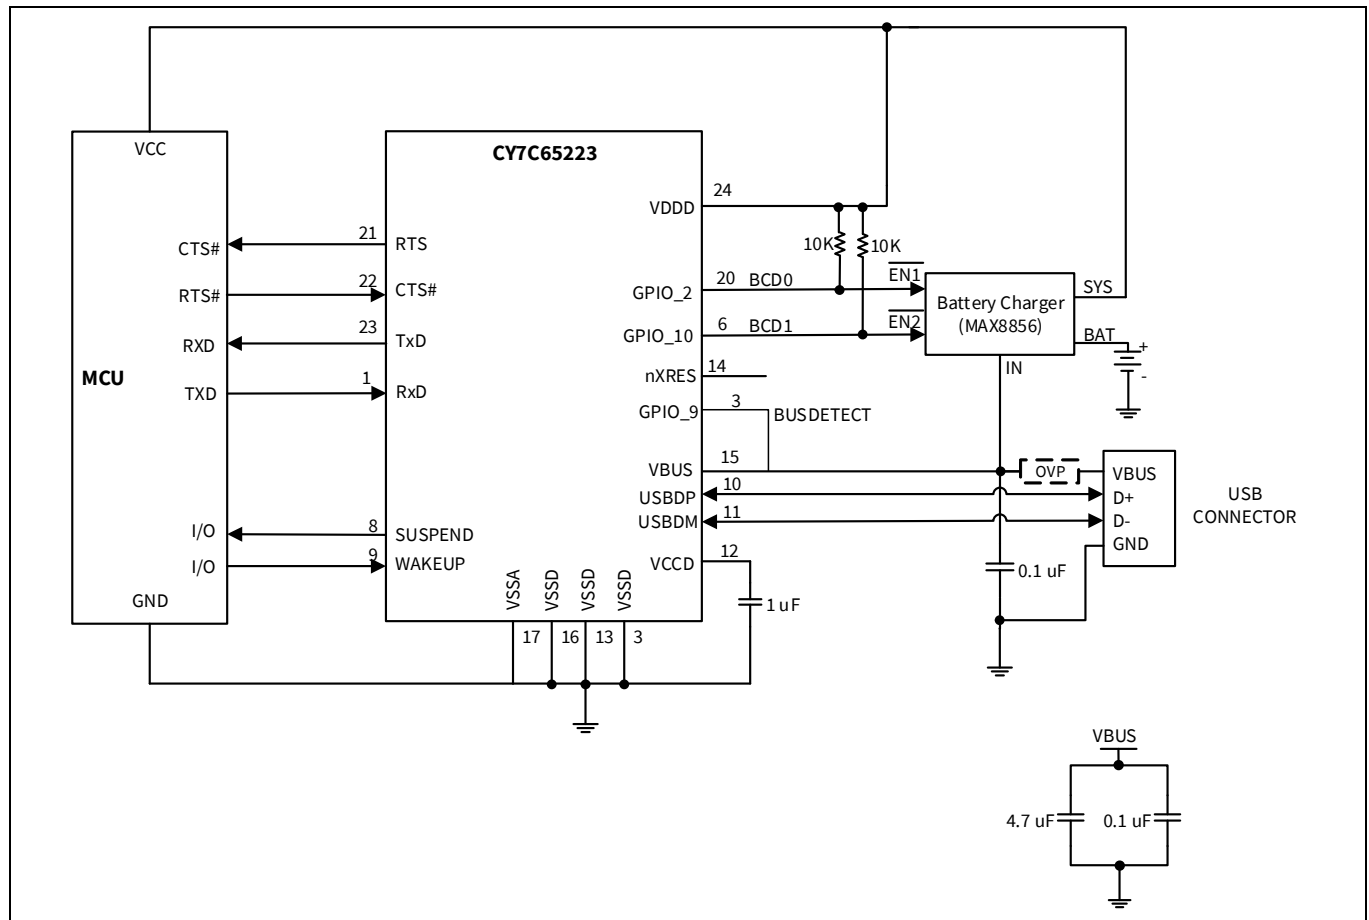

**Figure 9** USB to MCU Interface with Battery Charge Detection[7, 8, 9]
**Figure 9** illustrates CY7C65223 as a USB-to-microcontroller interface. The TXD and RXD lines are used for data transfer, and the RTS# and CTS# lines are used for handshaking. The SUSPEND pin indicates to the MCU if the device is in USB Suspend, and the WAKEUP pin is used to wake up CY7C65223, which in turn issues a remote wakeup to the USB host.
To comply with the first requirement, the VBUS from the USB host is connected to the battery charger as well as to CY7C65223, as shown in **Figure 9**. When the VBUS is connected, CY7C65223 initiates battery charger detection and indicates the type of USB charger over BCD0 and BCD1. If the USB charger is SDP or CDP, CY7C65223 enables a 1.5-k $\Omega$  pull-up resistor on the USBDP for Full-Speed enumeration. When the VBUS is disconnected, CY7C65223 indicates an absence of the USB charger over BCD0 and BCD1, and removes the 1.5-k $\Omega$  pull-up resistor on USBDP. Removing this resistor ensures that no current flows from the supply to the USB host through the USBDP, to comply with the USB 2.0 specification.